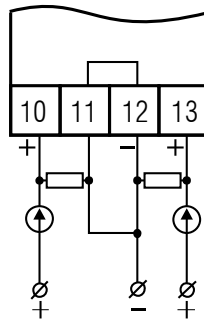

Fig. 5.2 4-20 mA sensor wiring
- The inputs should be wired in accordance with Fig. 5.2...5.3
Connect the current or voltage signal according to Fig. 5.2, 5.3. An auxiliary voltage source is needed.